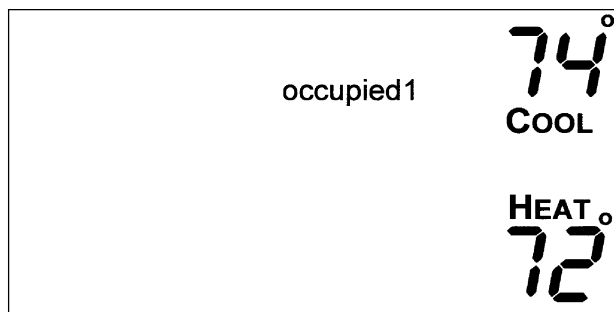

Fig. 6 — Setting Occupied 1 Set Points
1. Enter programming mode by pressing the Program button. The Occupied 1 annunciator will appear on the thermostat display. Use the UP ARROW and DOWN ARROW buttons to set the maximum number of Occupied periods for each day. The thermostat can be set to 1, 2, or 3. After the number of Occupied periods has been selected, press the Mode button. See Fig. 6.
2. The cooling set point for Occupied 1 will be displayed. Use the UP ARROW and DOWN ARROW buttons to raise or lower the cooling set point until the desired temperature is shown. The range of acceptable values is 35 to 99 F (1 to 37 C). Press the Mode button to continue. See Fig. 6.
3. The heating set point for Occupied 1 will be displayed. Use the UP ARROW and DOWN ARROW buttons to raise or lower the heating set point until the desired temperature is shown. The range of acceptable values is 35 to 99 F (1 to 37 C). Press the Mode button to continue. See Fig. 6.